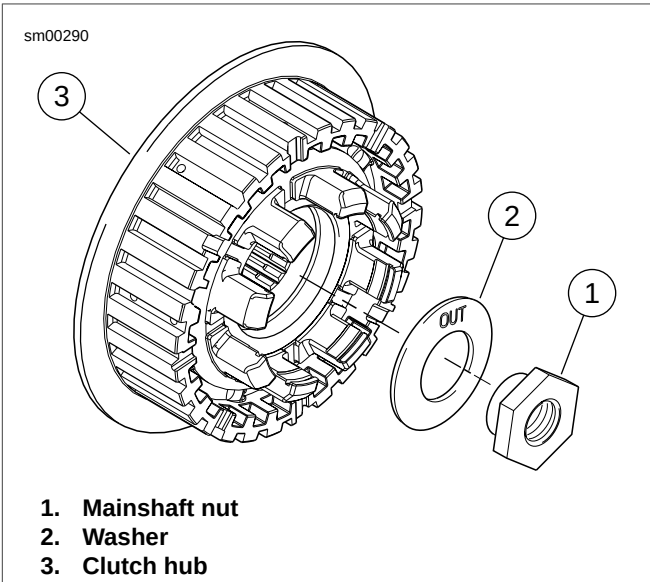

Figure 5-40. Mainshaft Nut and Washer
See Figure 5-40. Washer (2) must be installed with the word "out" facing the transmission mainshaft nut (1). Incorrect assembly can result in clutch and/or transmission failure.
5. See Figure 5-40. Apply two or three drops of LOCTITE Threadlocker 262 (red) onto threads on end of transmission mainshaft. Install spring washer (2) and mainshaft nut (1) (left-hand threads) on transmission mainshaft. Tighten nut to 70-80 ft-lbs (95.0-108.6 Nm).